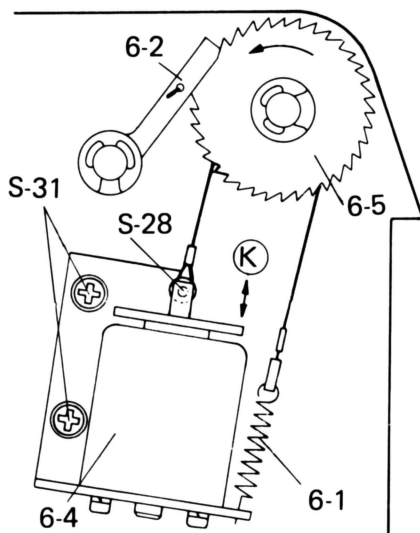

Figure 25
- i) While pushing down part (K) of 6-4, fix 6-4 with S-31 at the position where 6-2 falls from a tooth top of 6-5. The screw S-28 should be set to the direction as shown in Figure 25.
- ii) While pressing part (K) of 6-4, fix 6-9 with S-32 at the position where (T) part of 6-9 and (T) part of 6-7 are coupled to stop the revolution of 6-7.
- iii) Confirm linefeed functions by pressing part (K).